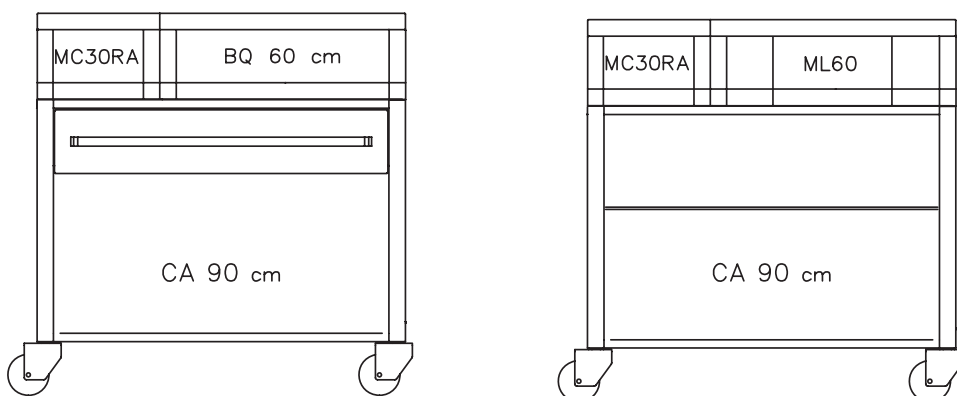

Figure 2
2. The module can be directly integrated in the barbecue trolley. This type of attachment can be used only in trolleys with a 90 cm base (see figure 2).